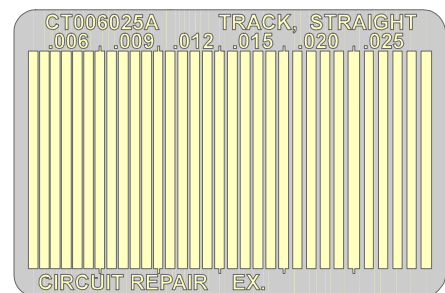

Figure 2: Sample frame or replacement conductors with dry film adhesive backing.
7. Select a replacement circuit with film adhesive backing that most closely matches the size of the conductor to be replaced. If a special size or shape is needed they can be custom fabricated. (See Figure 2).